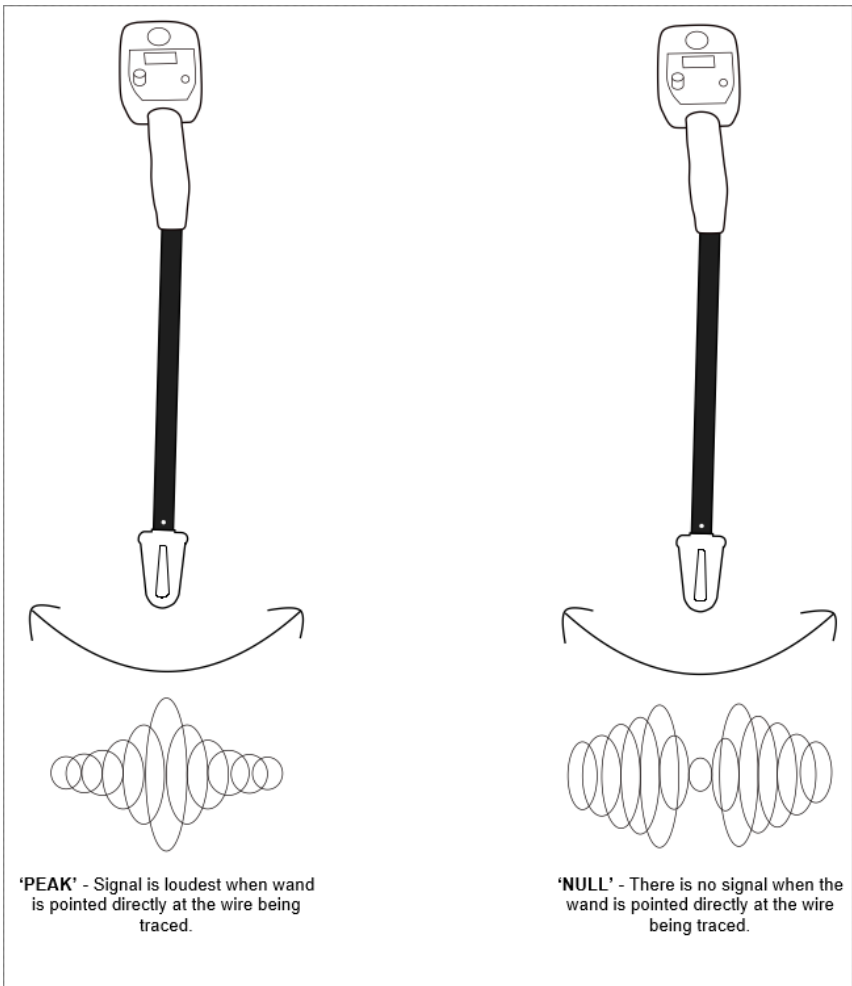

Figure 2
2. Now use your receiving wand to track the signal of the rod through the pipe, just like you would track any other underground wire or cable. If you are using "NULL" reception, there will be no signal over the rod, and beeping on both sides of the line. If you are in "PEAK" reception, it will beep loudest when the wand is pointed directly over the rod. See Figure 2 below.